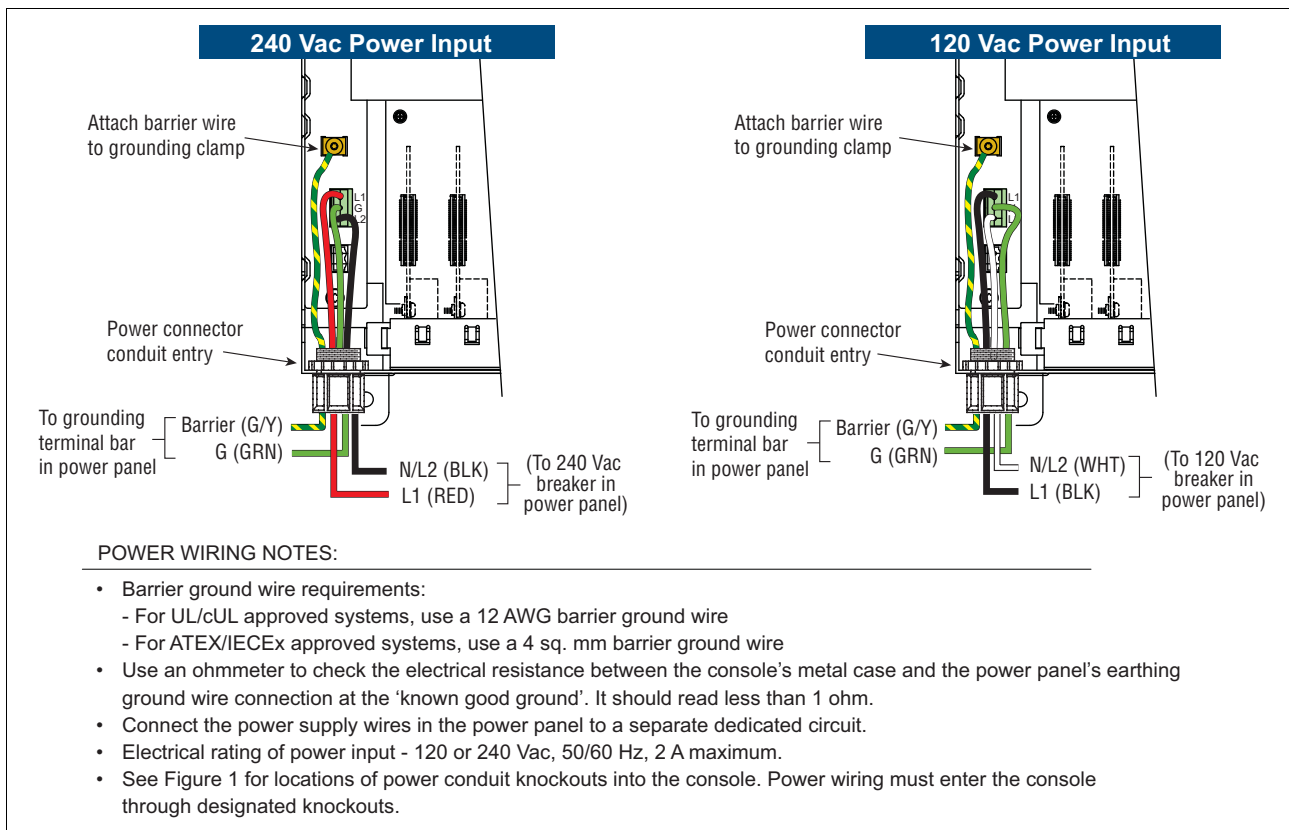

Figure 2. Wiring AC Power To The TLS-450/TLS-450PLUS Consoles
| Figure 2. | Wiring AC Power To The TLS-450/TLS-450PLUS Consoles | 5 |
4. Connect the input 120 or 240 Vac power wires as shown in Figure 2.